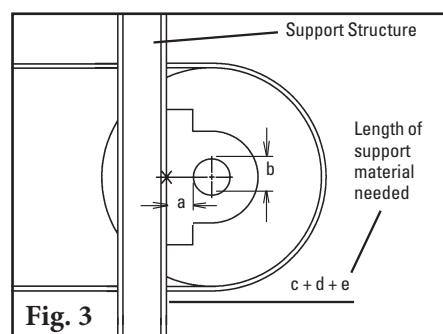

Fig. 3
- a.) Measure from the back of the pulley shaft to the support structure (Fig. 3).